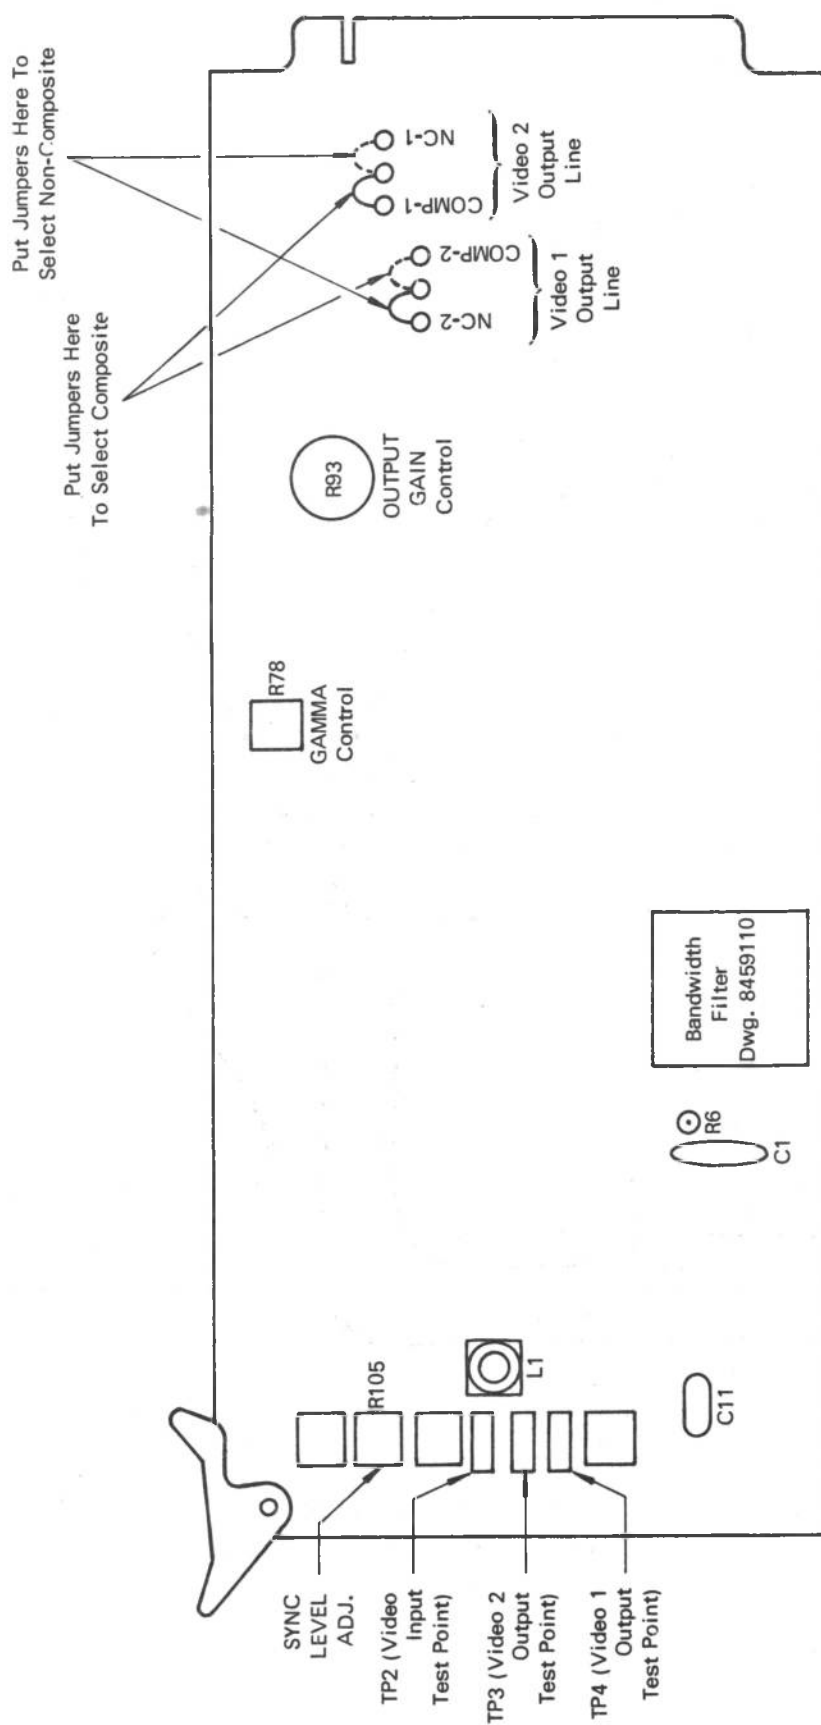

Figure 2-4. Video Processor Board
- b. Use the video signal supplied at the BNC connectors labeled VIDEO 1 and VIDEO 2 for driving TV monitors, video switchers, tape recorders or transmitters. For transmission distances up to several hundred feet route the video signals with 75-ohm coaxial cables such as Belden 8281. For greater distances best results will be achieved with RG-11/U coaxial cable and UHF to BNC terminating adapters. Terminate both VIDEO output connectors into 75-ohm loads at signal destinations. If one of the connectors is not used terminate it with the 75-ohm terminating plug on the end of the chain attached to the connector panel. Normally, the video signal is white-positive and composite at both VIDEO connectors, unless otherwise specified when equipment was purchased. The signal at the VIDEO 1 connector can be converted to non-composite by repositioning a plug-in jumper labeled NC-COMP 1 on the video processor board (Figure 4-2) from COMP to NC position. Similarly, convert the signal at the VIDEO 2 connector by moving the jumper labeled NC-COMP 2 from the COMP to the NC position. The polarity of the video signal at both VIDEO output connectors can be converted to white-negative by providing one external contact closure between terminal 39 and the -10 volt bus (terminal 17) at the rear-panel connector labeled CAMERA. However, if negative white video polarity is selected, gamma correction must be set at unity (GAMMA control on video processor board, Figure 2-4, set fully CCW). The peak-to-peak amplitude of the video signal supplied at the two VIDEO output connectors normally is set at one volt (if signal is composite) or 0.7 volt (if signal is non-composite). Video amplitude and black level in signals at both connectors can be adjusted simultaneously as required with the front-panel GAIN and BLANK controls, respectively. If greater video amplitude than that obtainable with the GAIN control is needed, obtain by adjustment of the OUTPUT GAIN control on the video processor board (Figure 2-4). Readjust amplitude of sync, if needed, with the SYNC LEVEL control (Figure 2-4), also located on the video processor board.
- d. Refer to video schematic in Section IV; from Table 1 in the schematic determine what the inductance of L1 and capacitance of C11 on the video processor board (Figure 2-4) should be for the video bandwidth selected in step c; replace the components with ones having the values specified; using Table II in video schematic, ascertain if C1 and R6 on the video processor board have the correct values for the video bandwidth and camera-to-camera control interconnecting cable selected in step c; if not, change to ones having values corresponding to those specified;